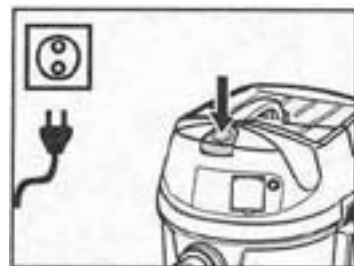

fig. 7
- Switch on the machine (fig. 7).